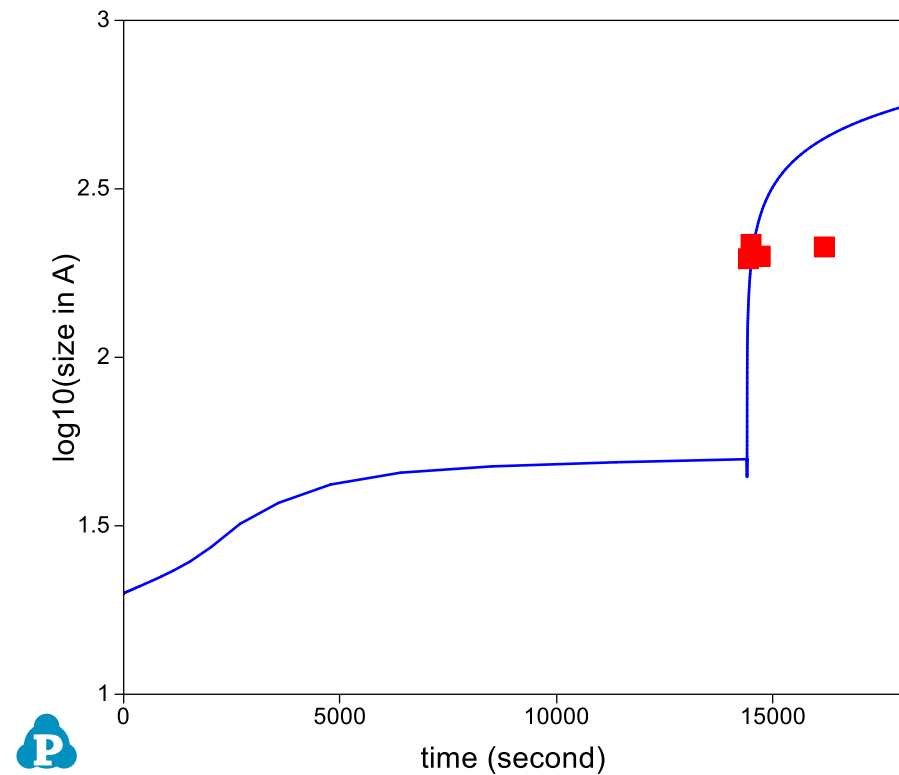

Figure 3.5.4: Calculated evolution of particle size with experimental data
- Figure 3.5.4 shows the calculated evolution of particle size with experimental data. It is seen that the particle size increases gradually during ageing at 185°C. It increases drastically when heating up to 350°C;